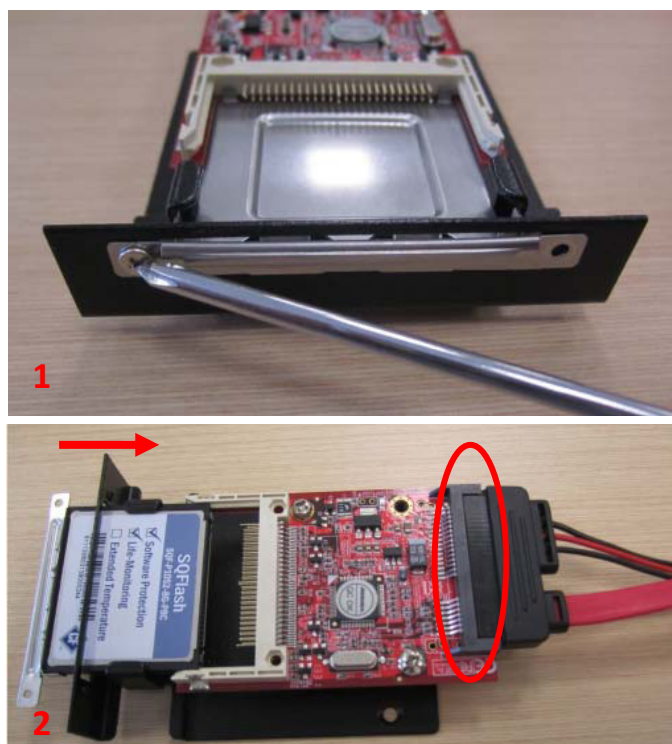

Figure 2.45
2. Retrieve the CF module card from the module case and remove the two screws at the sides of the metal tray (1). Affix the CF module card to the top of the metal tray. Then insert the tray in the direction shown in Fig. 2.45 and connect the SATA-to-SATA power cable (2).